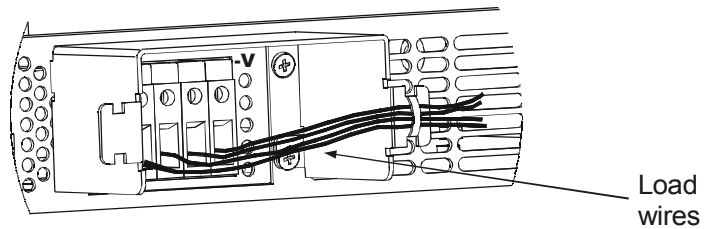

Fig.3-9: Protective shield and wires assembly
6. Tighten the wires to one of the shield sides using typ-wrap or equivalent. Refer to Fig.3-9. Ensure that the wire length inside the shield is long enough to provide proper strain relief.